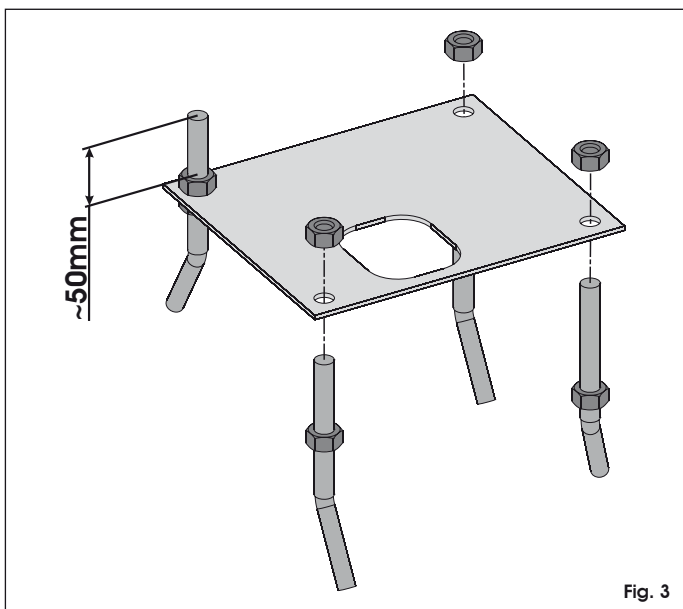

Fig. 3
1. Assemble the foundation plate as in Fig.3.